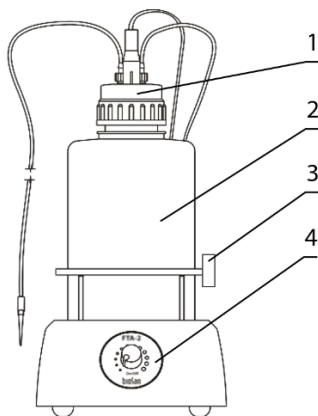
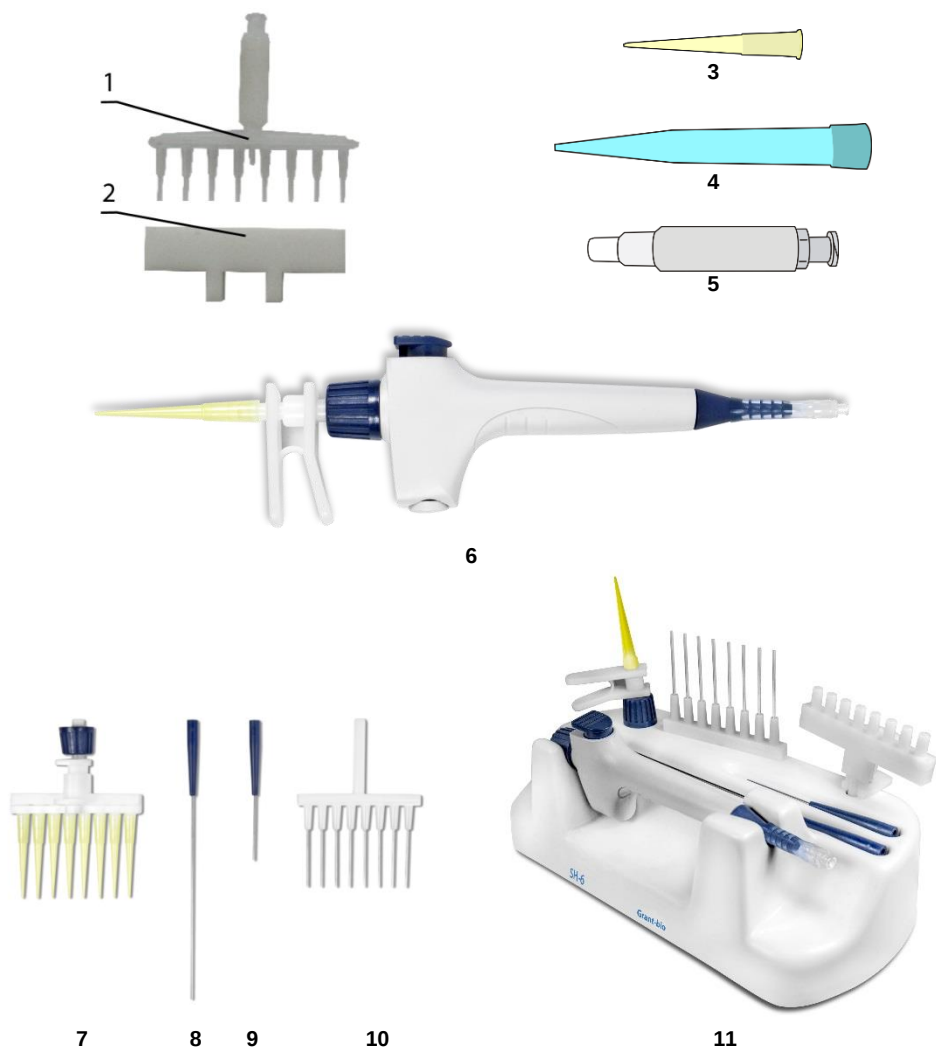

Figure 3. FTA-2i front view
Figure 8. Optional accessories and replacement parts
- Install the trapping flask (fig. 3/2) on the unit.
- Screw on the lid with the sensor needles and valves for tubing (fig. 3/1) to trapping flask.
- Place the microtubes for aspiration tip into the holder (fig. 3/3).
4.4.1. **Optional MA-8 aspiration tip installation.** Replace microtubes and aspiration tip from the holder (fig. 3/3) with **MA-8** holder (fig. 8/2). Remove the aspiration tip (fig. 5/1) from the **MA-U** adapter and connect the **MA-8** aspiration tip (fig. 8/1).
4.4.2. **Optional HAS-1 hand operator installation.** Unscrew the **MA-U** adapter from the aspiration tube (fig. 5/3) and connect the **HAS-1** hand operator (fig. 8/6) by screwing it to the fitting.
5.3. (For model **FTA-2i**) Regulate the aspiration intensity with the regulator knob on the front panel of the unit (fig. 3/4). Clockwise turning direction increases power, counter clockwise – decreases. Current intensity is indicated by a light ring around the regulator knob.
MA-8 , 8-channel aspiration tip (fig. 8/1) with holder (fig. 8/2)
HAS-1 , hand operator set (only for FTA-2i). Set includes: Handheld vacuum controller with 1-channel adapter (fig. 8/6), 8-channel adapter (with ejector) for 200 µL tips (fig. 8/7), 1-channel adapter with 125 mm stainless steel pin (fig. 8/8), 1-channel adapter with 40 mm stainless steel pin (fig. 8/9), 8-channel adapter with 35 mm stainless steel pin (fig. 8/10), Stand SH-6 for hand operator parts (fig. 8/11)
Aspiration tip, 200 µL, 1000 pcs. (fig. 8/3)
Aspiration tip, 8 channels, for MA-8 (fig. 8/1)
MA-U , universal adapter for 200/1000 µL single use tips (fig. 8/5)
Aspiration tip, 1000 µL, 1000 pcs. (fig. 8/4)